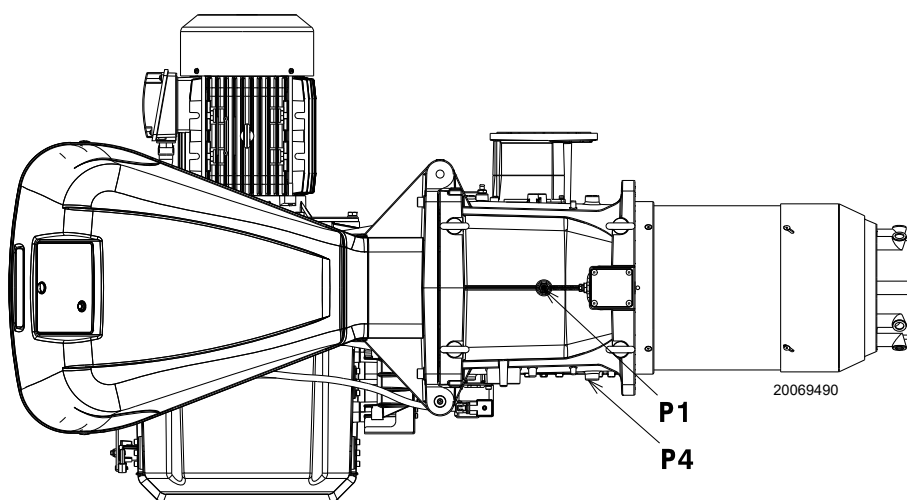

Fig. 25
Gas pressure measured at the test point P1)(Fig. 25), with:
- subtract the combustion chamber pressure from the gas pressure measured at test point P1)(Fig. 25).
Gas pressure at test point P1)(Fig. 25) = 58.1 mbar
To calculate the required gas pressure at test point P1)(Fig. 25), set the MAX output required from the burner operation:
- Read, on the right (column 1), the pressure at the test point P1)(Fig. 25).
Pressure required at test point P1)(Fig. 25).